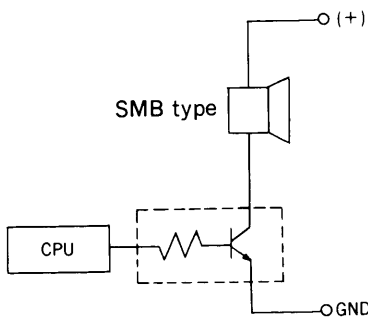
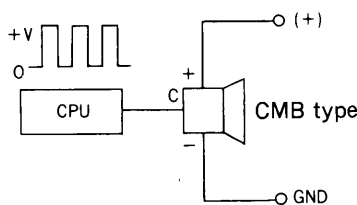

Fig.9
Fig.10
This type of buzzer may be considered as an ordinary two-terminal buzzer such as Type SMB with a kind of switching circuit consisting of an NPN transistor and a resistor is added as shown in Fig. 9. The voltage input (at "High" level) applied to the control terminal marked as "(C)" will trigger the NPN transistor to activate the buzzer. And if a pulsed voltage input is applied to the terminal (C) as shown in Fig. 10, the pulsed sound output may be obtained, but in such case the pulse width must be adequate enough for the buzzer to respond to it.